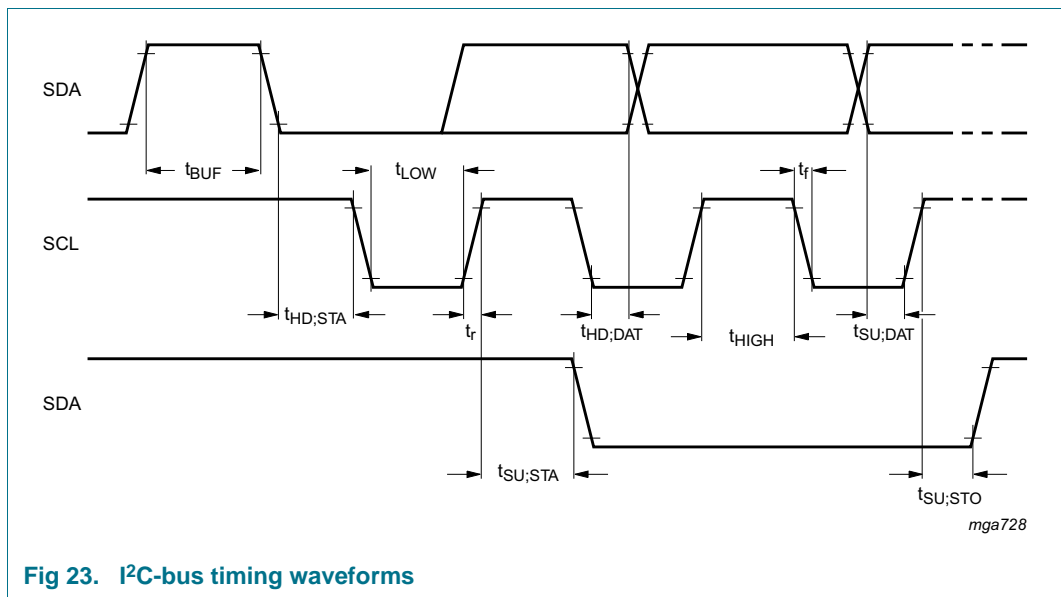

Fig 23. I²C-bus timing waveforms
- [3] All timing values are valid within the operating supply voltage and ambient temperature range and are referenced to V_{IL} and V_{IH} with an input voltage swing of V_{SS} to V_{DD} . For I²C-bus timings see Figure 23.